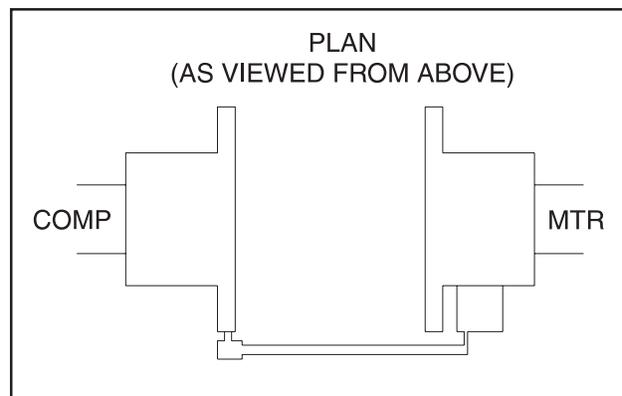

Figure 7 - Dial Indicator at 3 O'clock
10. Check parallel lateral misalignment by positioning dial indicator so the stem is in contact with the rim of the compressor hub at 3 o'clock, as shown in Figure 7.